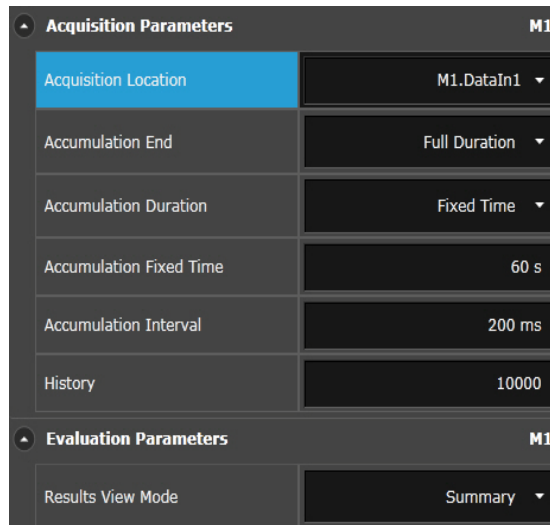

Figure 50 Acquisition parameter settings
- 17 The default acquisition parameter settings are used as shown in Figure 50 on page -94.